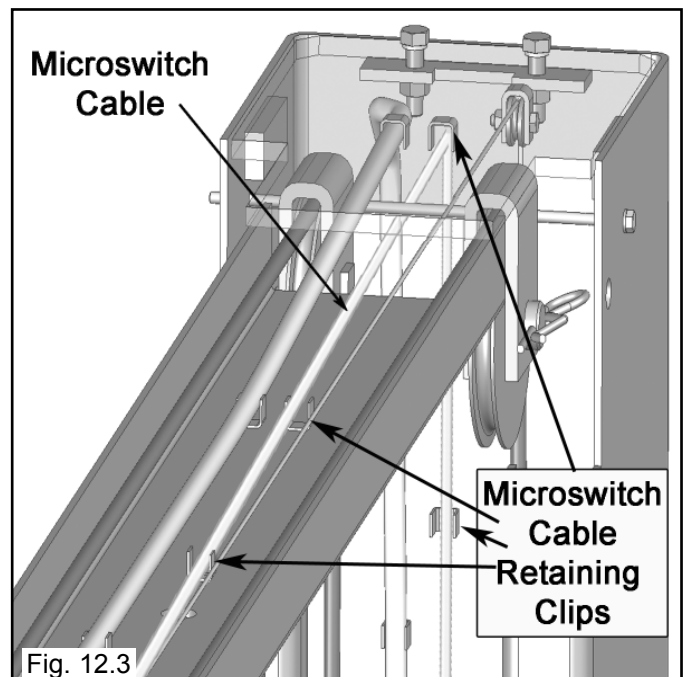

Fig. 12.3
3. Route Hose up through Column and across Top Trough through hole on Top Trough into Microswitch Box. (See Fig. 12.3)